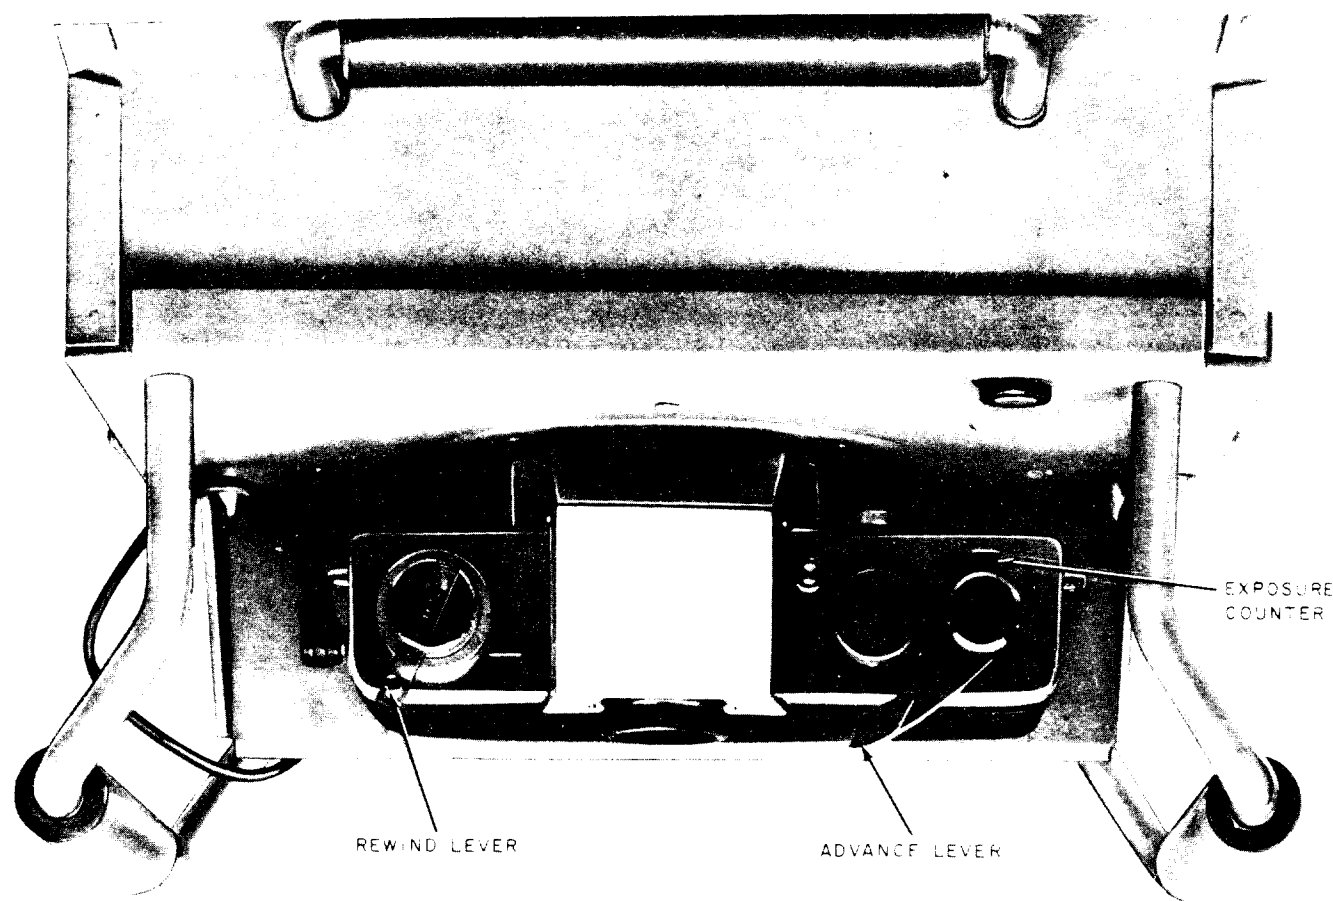

Fig. 7—Rewind Lever, Advance Lever, and Exposure Counter
3.05 The camera is equipped with an automatic exposure counter (Fig. 7) which indicates the number of exposures taken. A red colored numeral "20" or "36" indicates the number of exposures taken on a roll of 20- or 36-exposure film, respectively, when the film is completely exposed. When the back cover of the camera is
- (c) Unfold the rewind crank from its storage position on the top and left side of the camera (Fig. 7). Revolve it clockwise in the direction of the arrow. The rewind shaft will slowly float up for easier rewinding action as it is turned. Continue to revolve the rewind crank to rewind the exposed film into its cartridge.